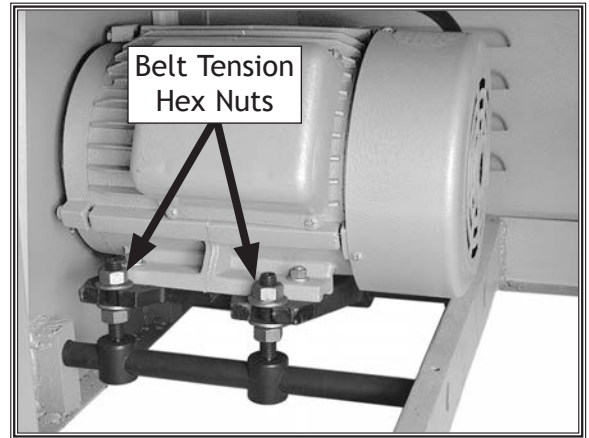

Figure 45. Front cabinet cover removed to access motor.
3. Remove front cabinet cover to access motor, as shown in Figure 45.
5. To adjust V-belt tension, loosen top belt tension hex nuts (see Figure 45), then adjust bottom hex nut to raise or lower motor.